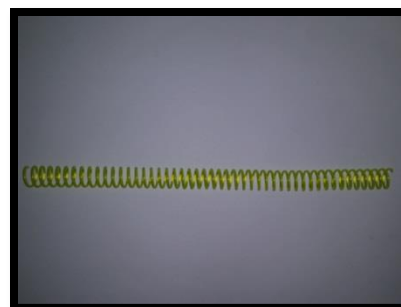

Figure 10
- Also check the condition of your coils. Roll them across a flat surface. Coils should have a smooth spiral shape and not be bowed, compressed or stretched. Figure 10